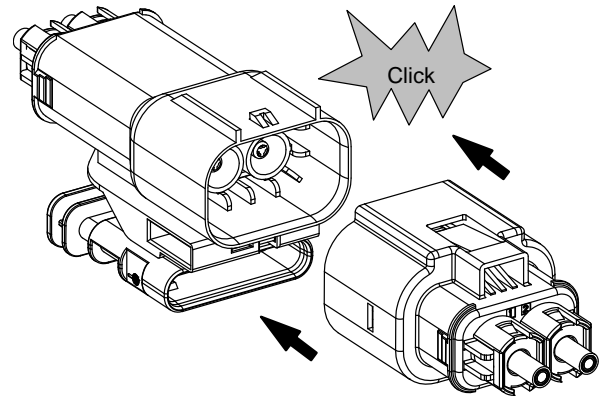

Figure 25
1. Push the AMP+ HVA400 connector halves together until the main latch engages with a click. See Figure 25.